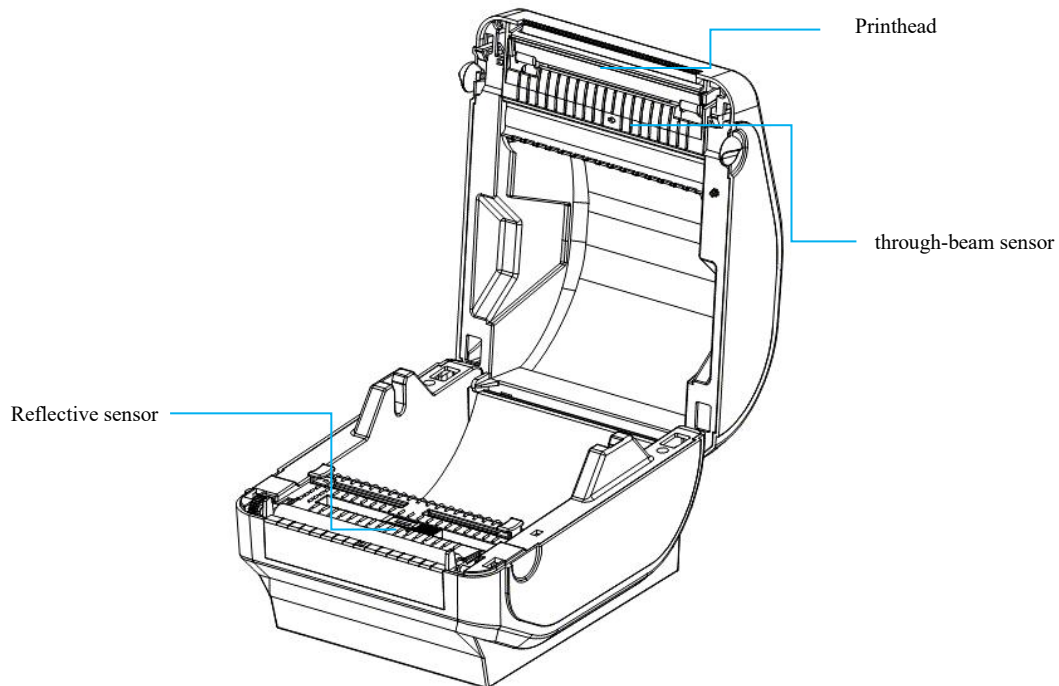

图 1
- (1) Turn off the printer, open the upper cover and remove the paper if exists.
- (2) If printing has just been completed, wait for the printhead to cool completely.
- (3) Use a soft cotton cloth that has been wrung out and dipped in anhydrous ethanol to wipe the print head surface of any dust or stains (shown in Fig.1).
- (4) After waiting for absolute ethyl alcohol to volatilize completely, close the upper cover and try printing again.